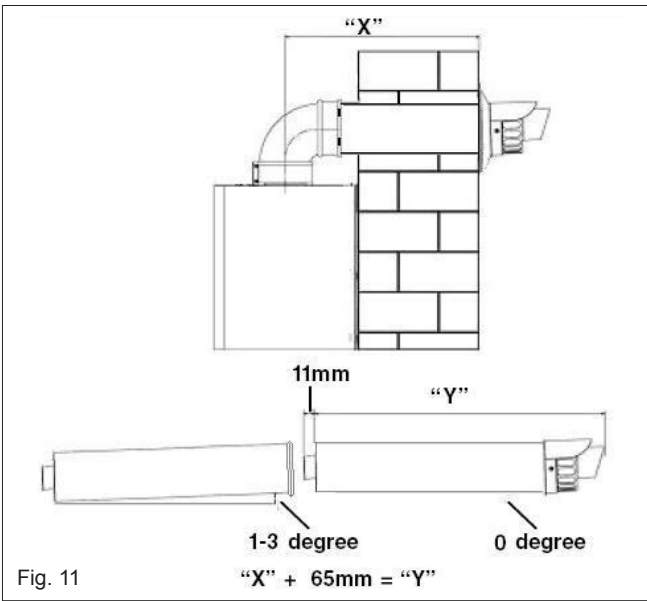

Fig. 11
Using the template provided (A), mark and drill a 125mm hole for the passage of the flue pipe. The hole should be drilled to ensure any condense fluid that forms, is allowed to drain back to the appliance (see fig. 11). The fixing holes for the wall-mounting bracket should now be drilled and plugged, an appropriate type and quantity of fixing should be used to ensure that the bracket is mounted securely. Once the bracket has been secured to the wall, mount the appliance onto the bracket.
Carefully measure the distance from the centre of the appliance flue outlet to the edge of the finished outside wall (dimension X). Add 65mm to dimension X to give you Dimension Y (see fig 11). Measure dimension Y from the terminal end of the concentric flue pipe and cut off the excess ensuring any burrs are removed. Pass the concentric flue pipe through the previously drilled hole. Fit the flue bend to the boiler flue outlet and insert the concentric flue pipe into the flue bend ensuring the correct seal is made. Using the clamp, gasket, and screws supplied, secure the flue bend to the appliance flue spigot.
Using the dimensions given in fig. 11 as a reference, mark and cut a 125mm hole in the ceiling and/or roof.